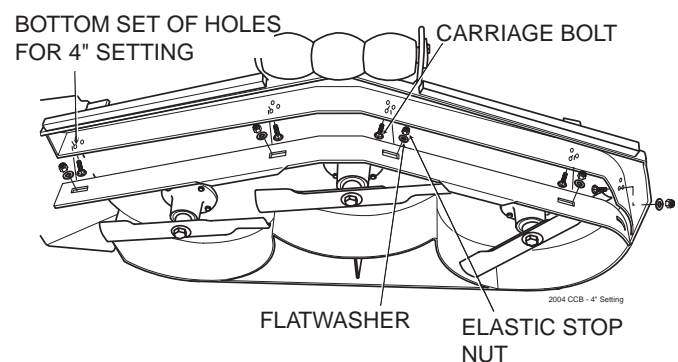

Figure 6-10. 4" Custom-Cut Baffle Position
- C. 4" Position - baffle is installed using the bottom set of holes on the front baffle welded inside the cutter deck. (See Figure 6.10). Placing the baffle in the 4" setting will enhance fall cutting (leaf pickup) and reduce cutter deck "blowout".
4. Reinstall the mounting hardware as shown. (See Figures 6.10 though 6.11). Torque hardware to 39ft-lbs.